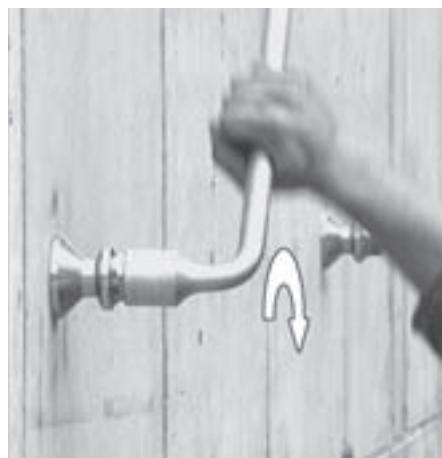

Fig. B1.18
3. Firmly tighten bolt by hand using socket wrench SW 36. (Fig. B1.18)